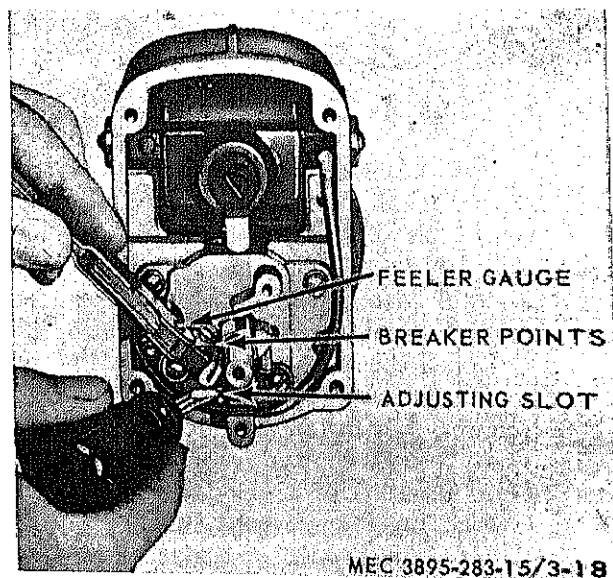

Figure 3-18. Magneto Point Adjustment.
(2) Use the hand crank and turn the engine until the rubbing block on the points is on the high side of the cam.
(3) Loosen the locking screws (fig. 3-18).
(4) Insert a screwdriver in the adjusting slot (fig. 3-18), and adjust breaker point gap to 0.015" at full separation.
(5) Tighten the locking screws and take a final measurement of the breaker point gap after the locking screws are tightened.
(6) Clean the contact surfaces between the end cap and magneto frame. Place a new gasket in the joint, mount the end cap on the frame and tighten the four screws securely.